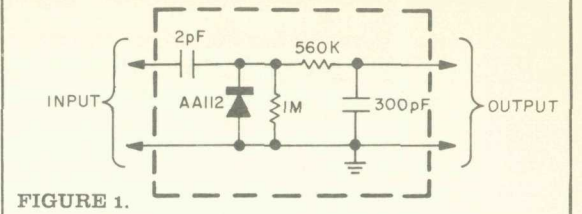

FIGURE 1.
- Tie dial cord to ear C (in capacitor-drive drum) as shown in Figure 1. Dial cord goes through slot in drum and is set in the inner groove.
- Wrap the end of the dial cord around the body of the machine screw (E) in the hub of the drive drum and tighten. The cord goes under the flat washer.
1—Connect sweep generator output to the insulation of wire connected to front-end TP #1. Connect scope input and DC VTVM (through diode probe—Fig. 1) to lead to collector of Q303, and ground.